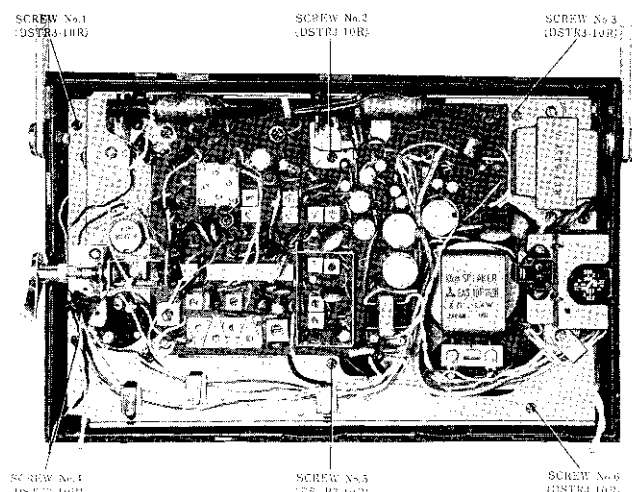

Fig. 1 Top View — Disassembly Points
To Remove Chassis (Refer to fig. 1)
1. Remove three (3) control knobs from cabinet front.
2. Remove three (3) cabinet back cover mounting screws.
7. Remove six (6) red screws chassis mounting screws Nos. 1~6, as illustrated in fig. 1.
Notes: Replace earphone/external speaker or phono jack, as illustrated, in fig. 1.